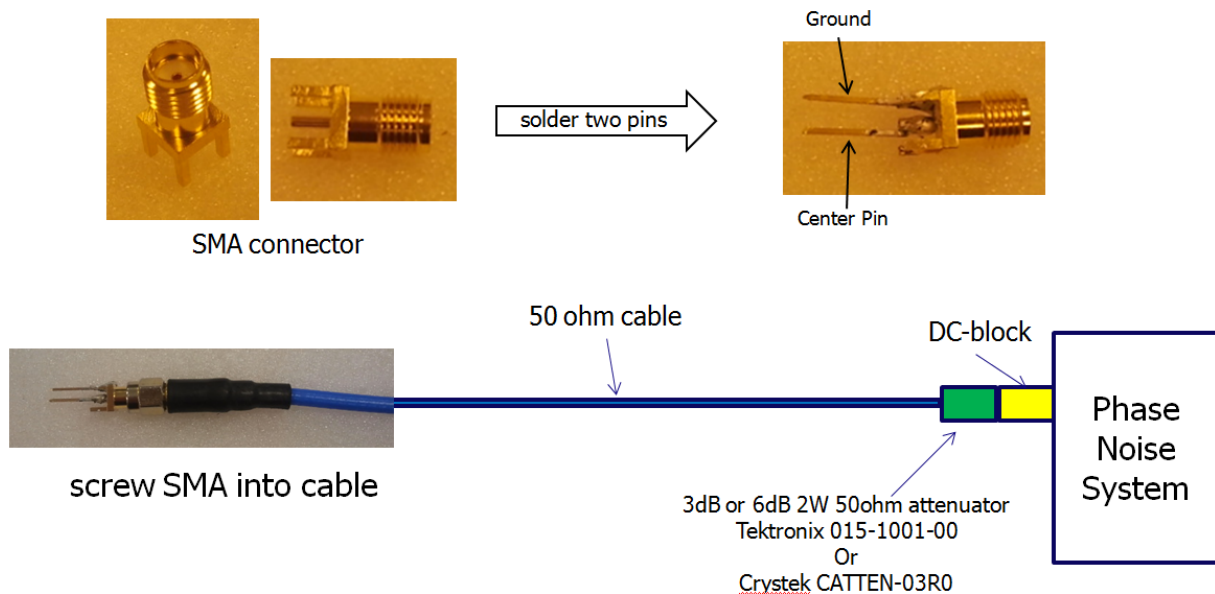

Figure 6. Constructing a Single-Ended Probe
- Figure 6. Constructing a Single-Ended Probe 4
Use the following steps and refer to Figure 6 for the process of constructing a single-ended probe.